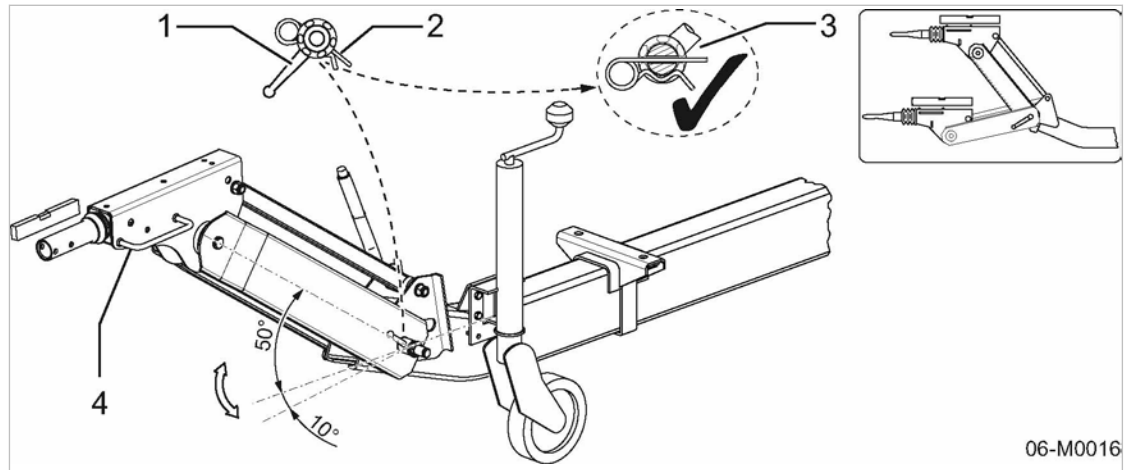

Fig. 27 Towbar height adjustment
The parallel tie bar ensures that the overrun braking mechanism stays horizontal (Fig. 27).
- The split pin is correctly inserted to secure the locking lever (see 3 in Fig. 27).